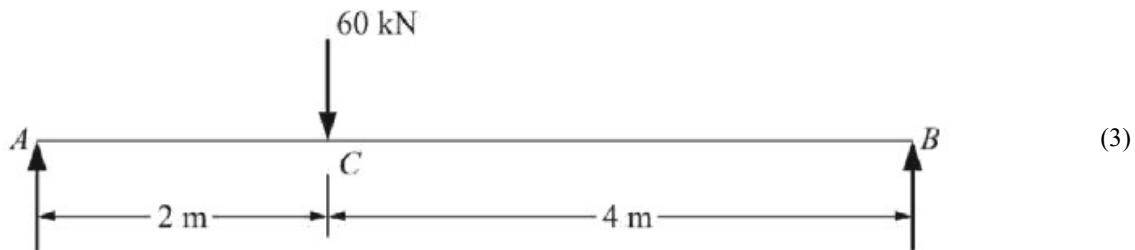

Figure 7
B) Determine the deflection under the concentrated load and the maximum deflection in the beam shown in the figure 7 using Moment Area method.